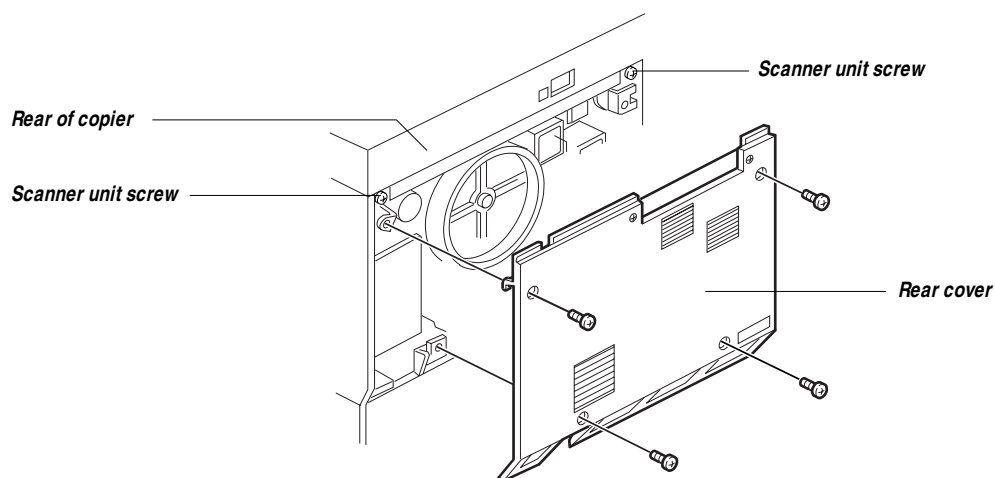

Figure 2-1 Removing the rear cover and scanner unit screws
5. ***While you are at the rear of the copier, remove the two screws that attach the scanner unit to the copier (see Figure 2-1).***